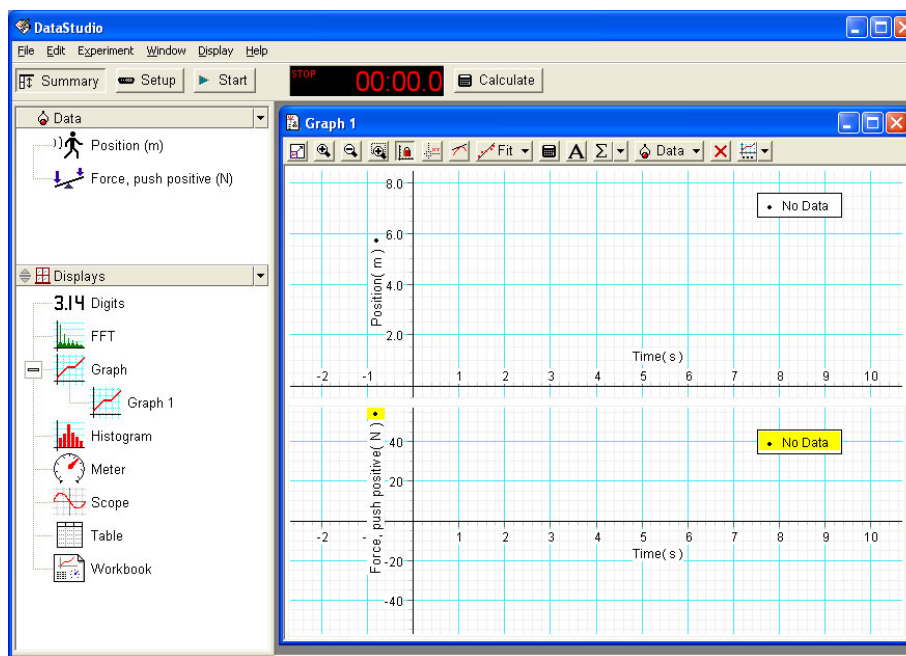

Figure 2. DataStudio software after connecting position and force sensors
4. A force sensor, attached to a second USB link, will be used to push down on the unsupported end of the beam (see the front cover illustration). Attach the second USB link to the computer. At this point the DataStudio screen should look similar to Figure 2 below.